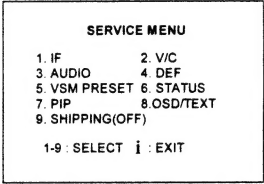
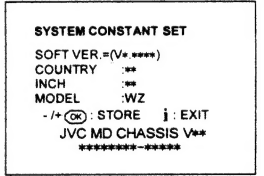

Fig.1
Fig.2
(1) Power off	Switch the power off and unplug the power cord from the outlet.
(2) Replace ICs.	Be sure to use memory ICs written with the initial data values.
(3) Power on	Plug the power cord into the outlet and switch the power on.
(4) Check and set SYSTEM CONSTANT SET:	<ol style="list-style-type: none">1) Press the INFORMATION key and the MUTING key of the REMOTE CONTROL UNIT simultaneously.2) The SERVICE MENU screen of Fig. 1 will be displayed.3) While the SERVICE MENU is displayed, press the INFORMATION key and MUTING key simultaneously, and the SYSTEM CONSTANT SET screen of Fig. 2 will be displayed.4) Check the setting values of the SYSTEM CONSTANT SET of Table 1. If the value is different, select the setting item with the FUNCTION UP/DOWN key, and set the correct value with the FUNCTION +/- key.5) Press the MENU key to memorize the setting value.6) Press the INFORMATION key twice, and return to the normal screen.
(5) Setting of receive channels	Set the receive channel. For setting, refer to the OPERATING INSTRUCTIONS.
(6) User settings	Check the user setting values of Table 2, and if setting value is different, set the correct value. For setting, refer to the OPERATING INSTRUCTIONS.
(7) Setting of SERVICE MENU	Verify the setting items of the SERVICE MENU of Table 3, and reset where necessary. For setting, refer to the SERVICE ADJUSTMENTS.